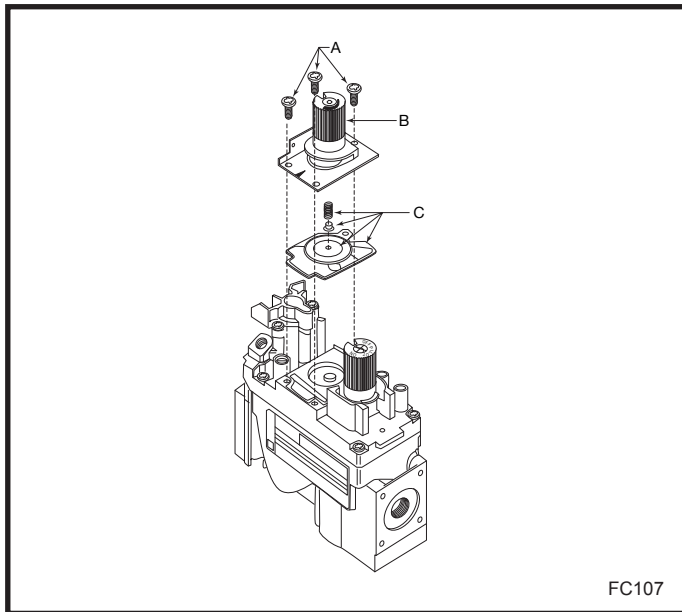

Fig. 61 Remove valve regulator.
12. Open the control panel and remove the cover by removing two (2) screws. While holding the valve cover plate with one hand, disconnect the wiring to the switch and the pilot indicator. **NOTE:** Do not allow the valve cover plate to hang from the pilot wires as this could damage the wires. Remove the extension knob(s). Replace the valve regulator.
13. Using the TORX T20 bit remove and discard the three (3) pressure regulator mounting screws (A), pressure regulator tower (B) and the spring and diaphragm assembly (C). (Fig. 61)